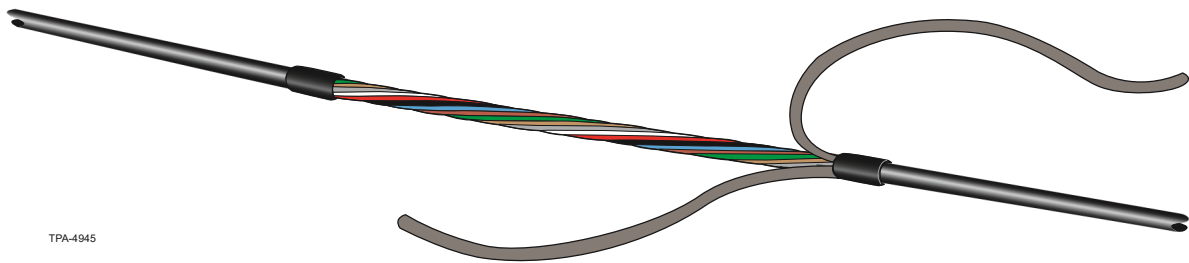

Figure 17
**Step 6:** Then continue to remove the jacket by pulling both sides to the second ring cut (Figure 17).